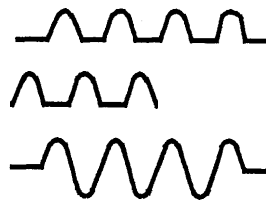

Figure. 6-1
Since the fluorescent lamp operates on AC power, a DC-AC inverter circuit is needed to convert DC to AC when the supply power voltage is DC. A high voltage is also required to drive the fluorescent lamp. On this model, a voltage greater than 1500 Vp-p is applied across the fluorescent lamp. See the fluorescent lamp drive circuit in Fig. 6-2. The supply voltage is applied at pin (3) of the inverter transformer. The voltage at the base of Q759 remains the same; Q759 is therefore stays off, and Q760 as well as Q761 remain off too. When the power is turned on, Q759 is activated and either of Q760 or Q761 turns on earlier than the other. As a result, the circuit begins to oscillate at the resonant oscillation frequency which is determined by the capacitance (C) of C758 and the inductance (L) of the transformer's primary winding. Pins (1) and (5) of the transformer's tertiary winding are connected with the bases of Q760 and Q761 for forward feedback. Fig. 6-1 shows the relevant voltage waveforms. A vertically symmetrical sine wave is generated between pins (2) and (4) of T702. The secondary voltage between pins (6) and (9), which is proportional to the transformer's winding ratio, is given out to drive the fluorescent lamp. Once discharging has started, the fluorescent lamp's internal resistance goes down (negative resistance). By dividing the capacitance (C) of C761, a constant discharge current flows to keep the fluorescent lamp on. During arc discharge, the fluorescent lamp gives out ultraviolet rays. By means of the fluorescent substance applied over the inner surface of the glass light emitting tube, the ultraviolet rays are turned visible. This visible light is used as the backlight of the LCD panel.